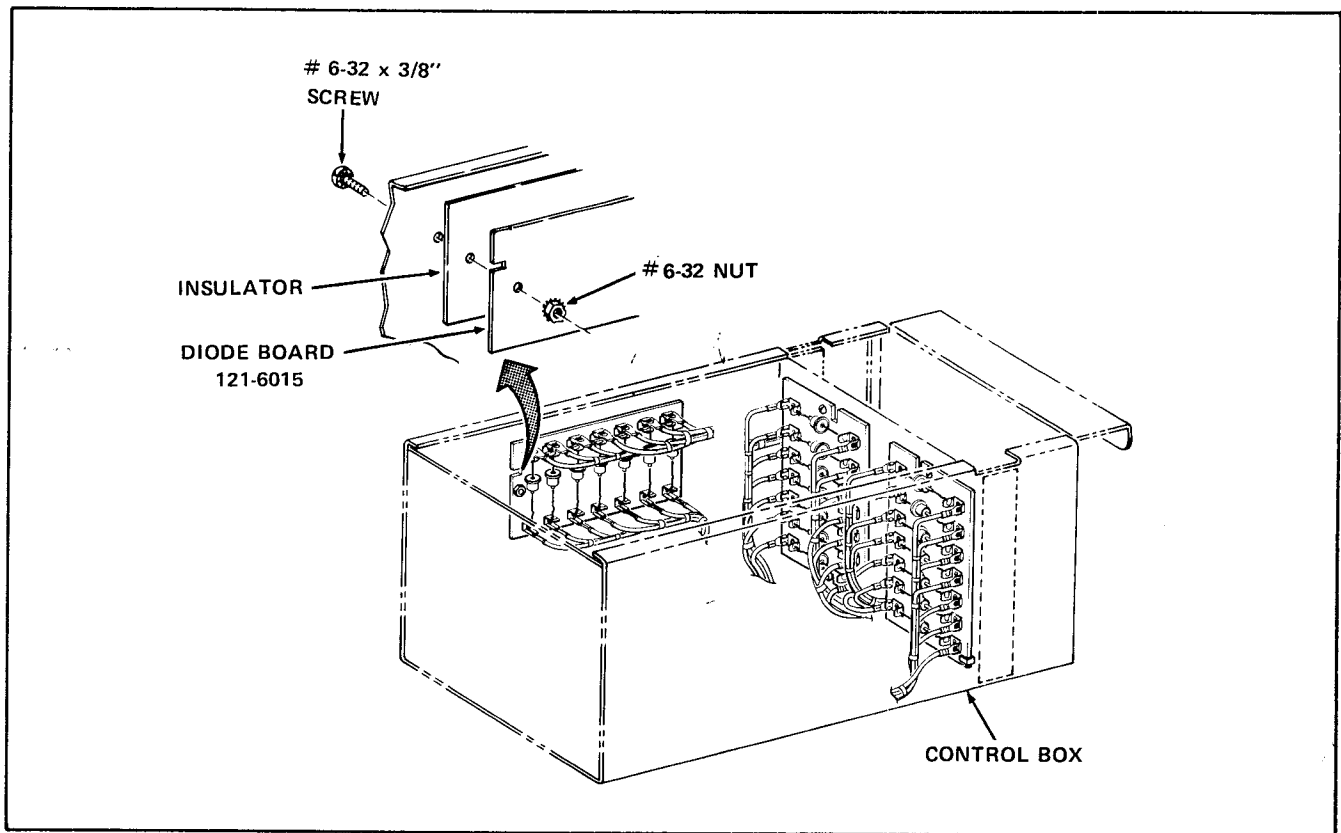

FIGURE 2
Figure 2 shows the location of the three Diode Board Assemblies in the Control Box. Two of the Boards are attached with No.6-32 x 5/16" Round head Self-tapping Screws. The third Board is attached with a No.6-32 x 3/8" Round head Machine Screw
- a. If the second Board was removed per step A-3, install the second Board. Be sure the Board is backed by an Insulator; that the bottom end of the Board and Insulator is hooked in the appropriate tabs on the Divider; and that the No.6-32 x 5/16" Round head Self-tapping Screw attaches both the Board Assembly and the Insulator to the Divider. Figure 2 shows the proper position this Board Assembly is to be in when installed.
- b. Install the replacement Diode Board Assembly. Be sure the Board is backed by an Insulator; that the one end of the Board and Insulator is hooked in the tabs which are on the side and toward the front of the Control Box; and that the No.6-32 x 3/8" Screw and the No.6-32 Nut attaches both the Board and the Insulator to the Control Box. See Figure 2.
6. After the replacement Board has been correctly wired, attach the replacement Assembly to the Divider. Be sure the Board is backed by an Insulator; that the bottom end of the Board and Insulator is hooked in the tabs on the Divider; and that the No.6-32 x 5/16" Round head Self-tapping Screw attaches both the Board Assembly and the Insulator to the Divider. Figure 2 shows the proper position these Boards are to be in when installed.